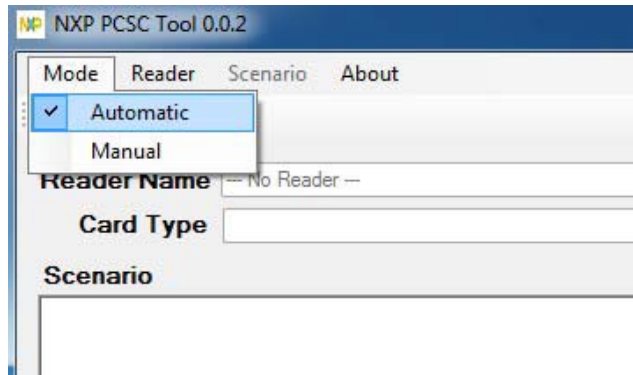

Figure 3-6: NXP PCSC Tool – Mode Selection
Step 5: Select **Automatic** from the Mode menu (Figure 3-6).